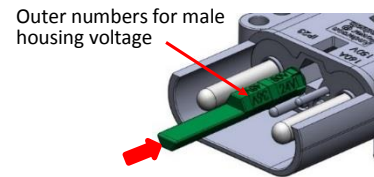

Figure 7 (Top Housing removed for clarity)
- b. Push the pin forward, verifying that the pin is in the right orientation. (Figure 7)